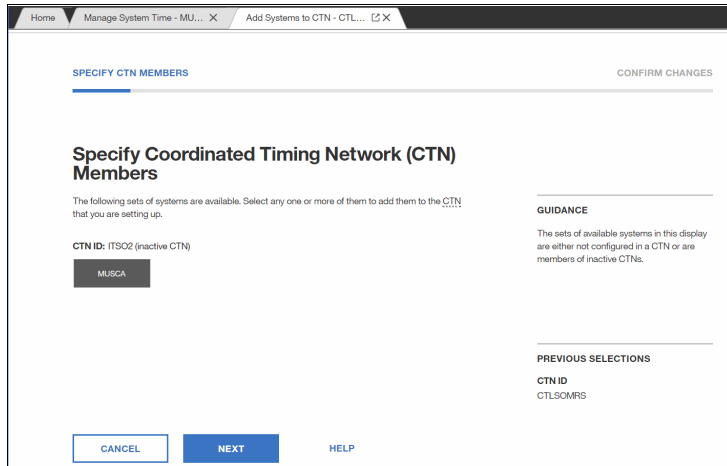

Figure 8-56 Specify Coordinated Timing Network (CTN) Members window
- The Specify Coordinated Timing Network (CTN) Members window opens. In this window, select the CPC name that does not belong to any CTN (MUSCA). Click **NEXT** to continue (see Figure 8-56).